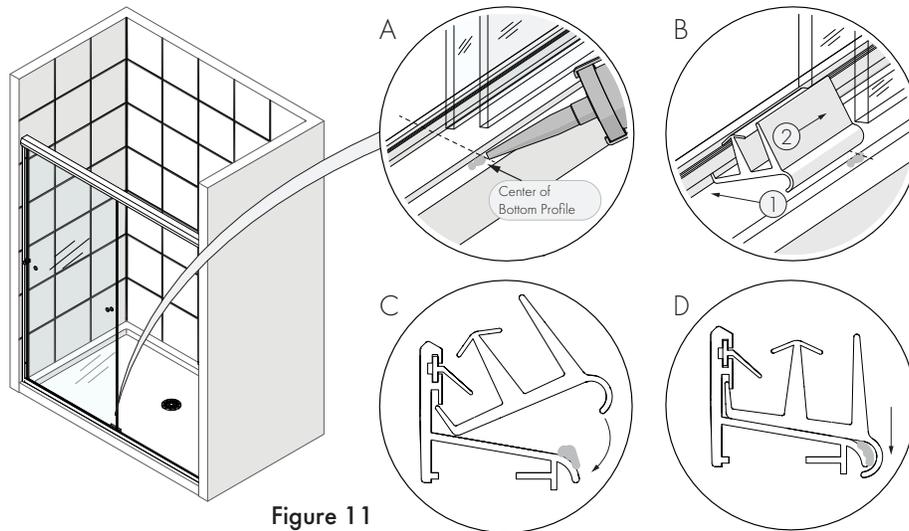

Figure 11
- B. (1) Insert the front lip of the *Center Guide* into the slot on the inside of the *Bottom Profile* and snap the *Center Guide* down over the inside of the *Bottom Profile*. (2) Move the installed *Center Guide* to the center of the *Bottom Profile*, halfway beneath the door glass. As an option, drill a  $\text{Ø } 1/8''$  hole through the *Center Guide* and into the *Bottom Profile*. Install a #6 x 3/8" *Pan Head Screw*– #07. Fig 11